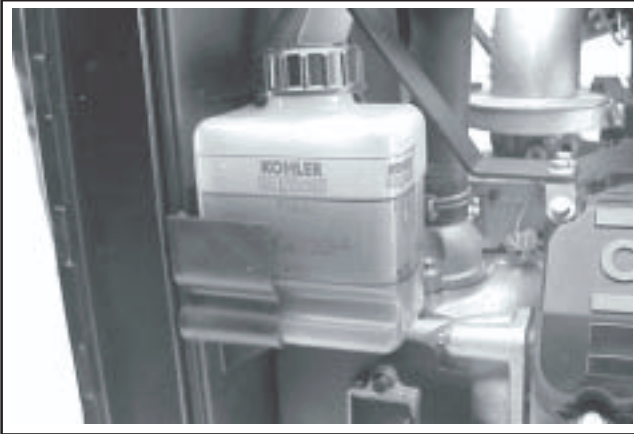

Figure 7-5. Coolant Levels on Reservoir.
1. Check the coolant level within the overflow reservoir. Coolant level should be between the "FULL" and "ADD" marks on the reservoir. See Figure 7-5. **Do not** operate the engine with the coolant level below the "ADD" mark.
5. Check coolant level in reservoir. Coolant level should be between the "FULL" and "ADD" marks. See Figure 7-5. Add coolant if required.